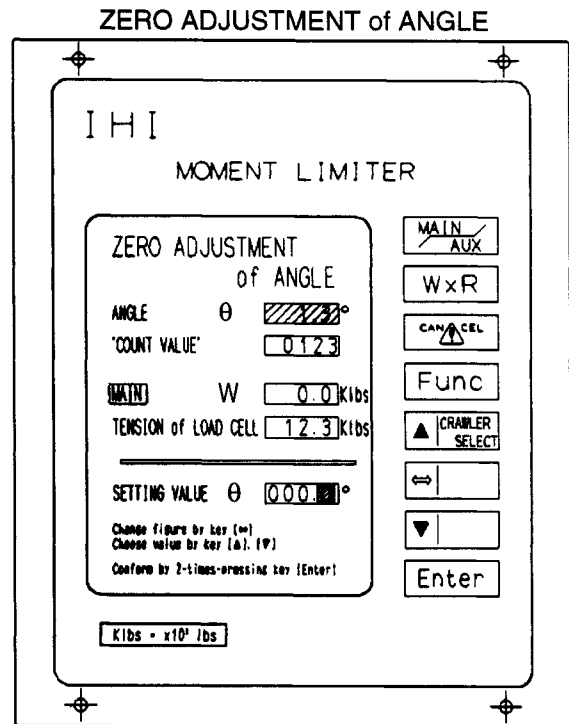

Figure 5
- 3.) Bring the ZERO ADJUSTMENT OF ANGLE mode screen up on the Moment Limiter (see Figure 5).